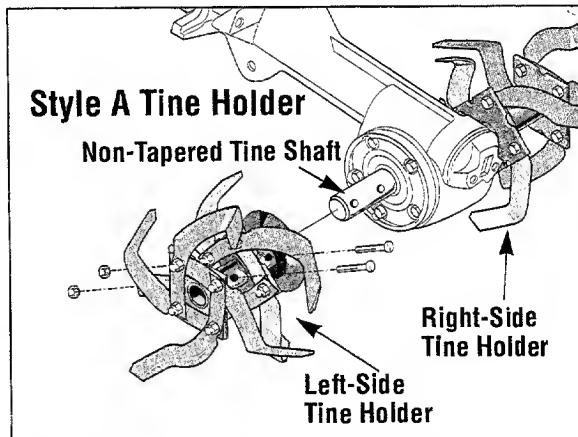

Figure 5-33A: Style "A" Tine Holders—Left and right-side tine holders are secured to the tine shaft with two bolts and two nuts.
The 16 Bolo Tines are mounted eight per side on left-side and right-side tine holders – on either Style A or Style B holders (refer to Figures 5-33A and 5-33B to see which style tine holder you have). Style "A" tine holders are secured to the tine shaft with two bolts and two nuts. Style "B" tine holders are secured with a single end bolt to the left and right sides of the tine shaft. Here's how to replace the tines and holders as *assemblies*.
3. With Style A holders, remove the two bolts and nuts securing each holder (Fig. 5-33A). With Style B holders, remove the single bolt (along with the washers) from